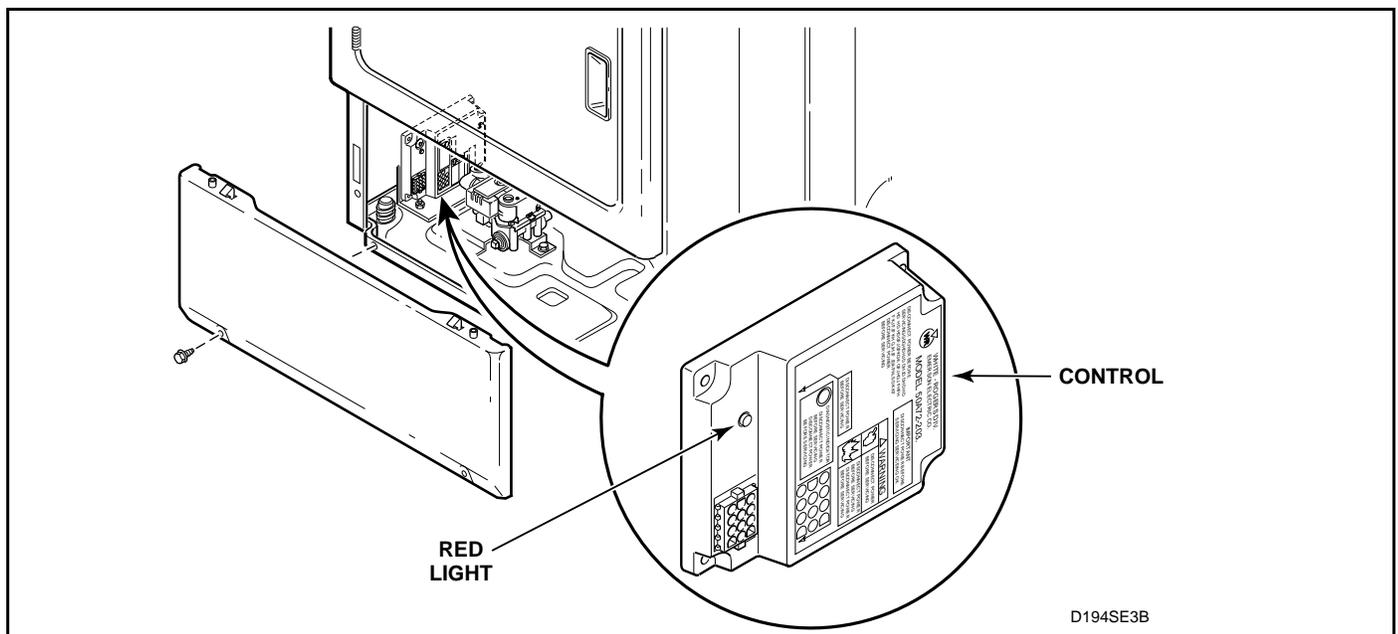

Figure 1
14. IGNITION CONTROL FLASHES (Figure 1)